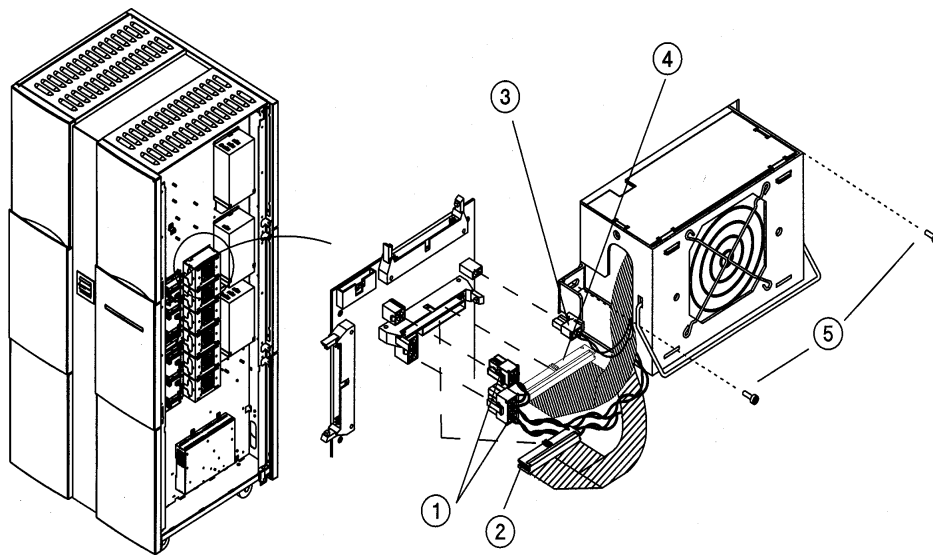

Figure 50: Removing the Cables and Screws
1. Remove the three right-side panels and the upper and lower RFI panels (see Figure 50).
2. Remove all drive cables for the drive enclosure that contains the failed drive (see Figure 50).
3. Remove the T-20 screws from each side of the drive enclosure. Remove the drive enclosure from the chassis (see #5 on Figure 50).
14. Connect all drive cables to the interposer PCA (see Figure 50).